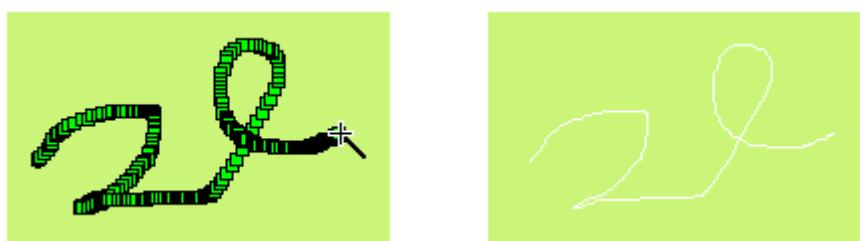

Figure 4-28: Drawing a free line
- Move the mouse to another position in the screen, and at this moment the system will draw a curve automatically along the movement track of the mouse. Then, left click or right click the mouse to complete free line drawing. See Figure 4-28.